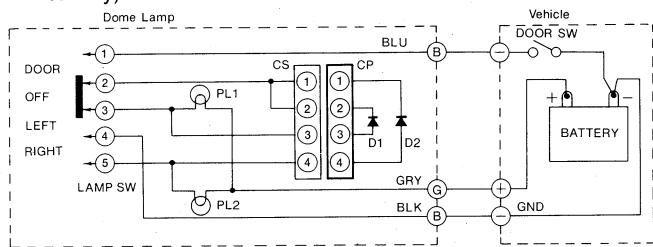

Fig. 45
1. In figure 45 transistor Q5 (Q6) will become ON, turning ON transistor Q7, if the output line (point Ⓐ) is shorted to earth.